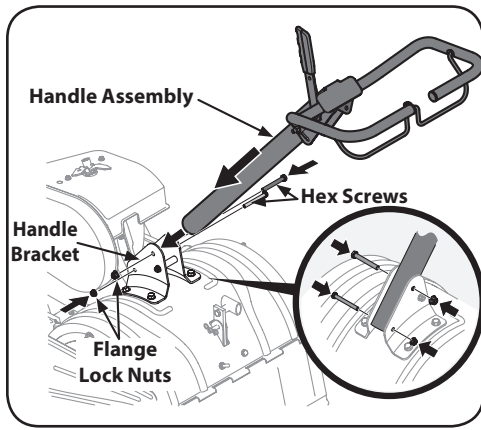

Figure 2-3
2. Place the handle assembly in position between the handle bracket. See Figure 2-3.